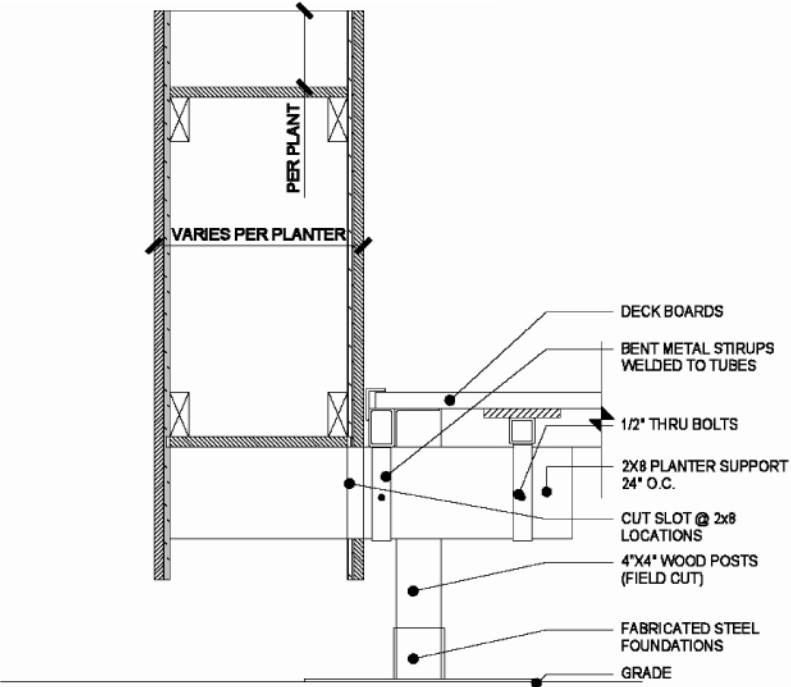

Figure 8: Deck Planter Section
Begin by installing section #1. This section is installed between module 1 and 3 of the home and is supported by the preinstalled 12” long angles. Fasten deck section to the home with 3/8” lags screws, insert into holes provided. Continue onto deck section #2, this section is again mounted to angles attached to the home and on section #1 as well as supported by additional piers ( see Figure 8) similar to those used on the home. Attach deck section #2 to home and temporarily support the deck at its outer edges. Level this with section #1. With the deck section level, begin installing the piers, beginning from the outer edge working inward towards the home. Make certain that the length of 4 x 4 posts for the piers are cut accurately. This will ensure no differential settling to occur. Fasten top of 4 x 4 post of pier to angles welded on deck frames with two (2) 1/2” x 6” through bolts.
Once the deck sections are complete install the planter sections. Begin by inserting 2 x 8 cantilevered joists at outer parameter of the deck. Be careful to in install the numbered joist at their corresponding number on the deck frames. Fasten joist to metal stirrups with 1/2” x 3” through bolts (see Figure 8). Each planter is constructed with slots which allow them to be slid over the joists. Install numbered planters at corresponding number on deck frame. Remove upper planter base and fastened planters to joists with 1/4” x 2” wood screws from the interior concealing any connections.